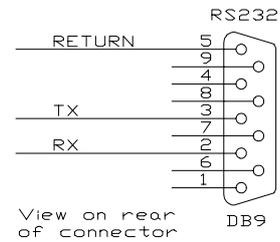

Figure 6 RS232 Connection
- 3.8.2 The connector pin allocations are given in Figure 6.